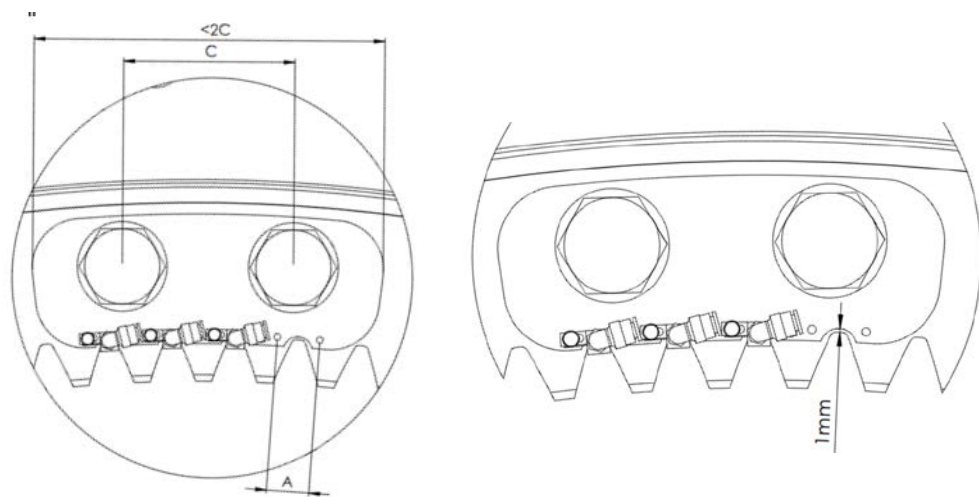

Figure 6: Details of the plate needed for the MiCRoLuBGear assembly
Figure 6 shows details of the plate needed for this assembly. The plate length (Length $<2C$) should be smaller than two times the distance between the housing bolts (C) to prevent the contact with the adjacent bolts. Distance A is summarized in Table 1 and depends on the Gear Module. Distance B depends on the gear dedendum geometry. Specifically, at least 1mm free space should be left between the plate and the teeth dedendum to prevent the contact between the MiCRoLuBGear and the supplementary plate.